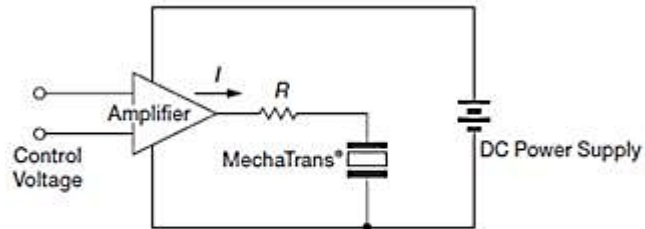

Fig. 5
1. In case of Analog drive circuits; refer to Fig.5